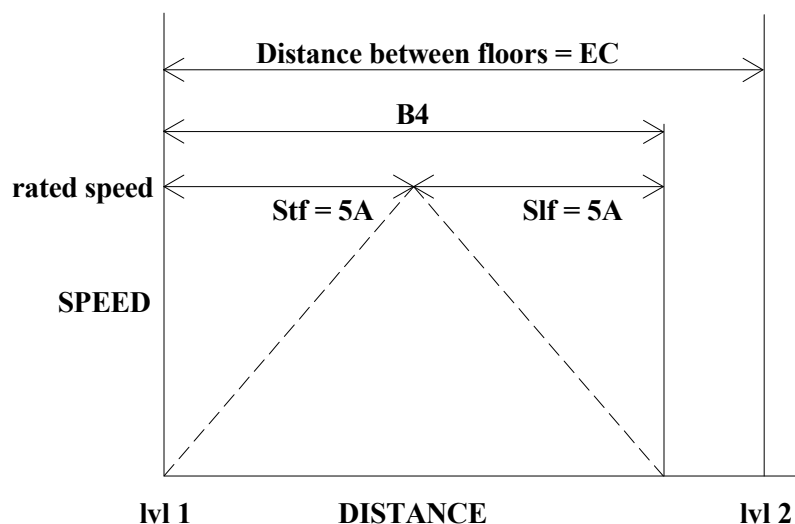

Fig 6a. (Ref. TurboCad – Pulse Graphs)
As shown in Fig 6a, B4 is less than EC, which means the processor will calculate that the full speed relay **can** be picked for a run between level 1 and 2. Ie, rated (max) speed is selected when  $Stf + Slf (B4) < \text{the commencing floor run hex value (EC)}$ .
As explained by Fig 6a, fast speed can be selected.